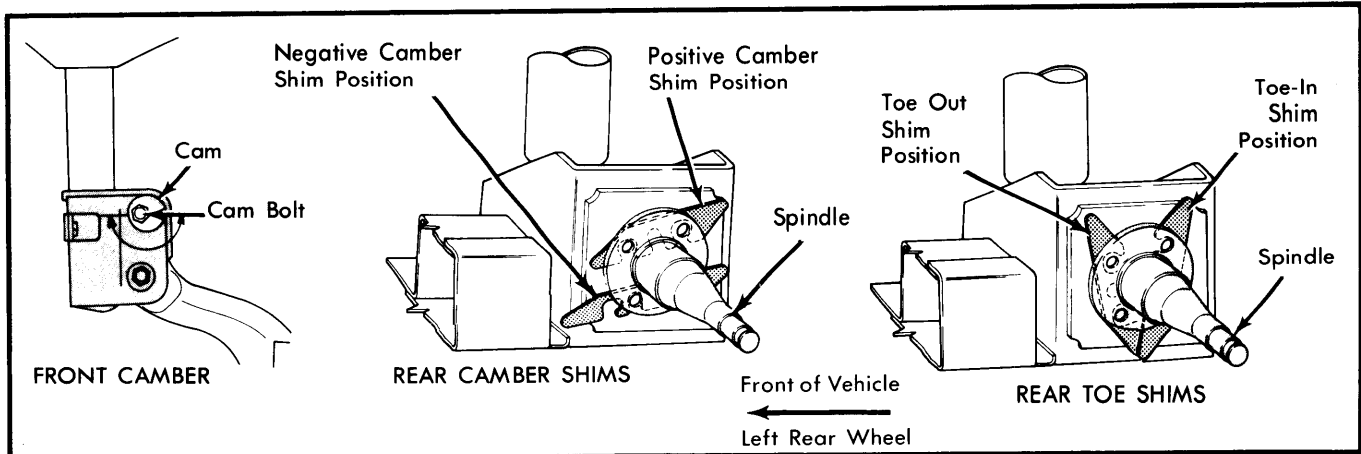

Fig. 10 Adjusting Camber & Toe (Front & Rear)
Omni and Horizon – 1) To adjust camber, loosen cam and through bolts on each side (see Fig. 10). Rotate upper cam bolt to move top of wheel in or out to specified camber. Tighten bolts to 90 ft. lbs.
2) To adjust camber of rear wheels, add .010" shims between spindle mounting surface and spindle mounting plate. See Fig. 10.